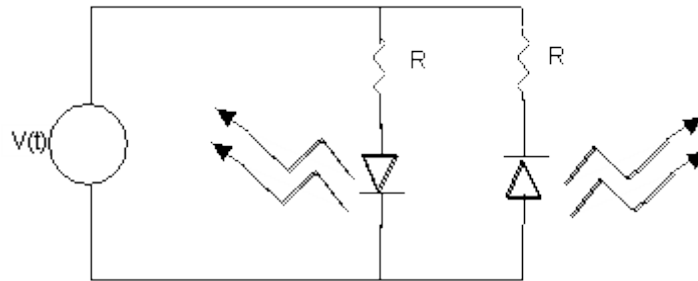

Figure 8. Blinking LED circuit for Part 3.
3.2 Build the circuit shown in Figure 8 on your protoboard (use the protoboard worksheet if you find it helpful). **You will be using the function generator signal as the voltage source $V(t)$.** Assuming that the diode voltage is 2V when the diode is on, calculate the resistance you need to limit the diode current to 20mA (to prevent overheating and damage). Both LEDs should blink. If not check the orientation.